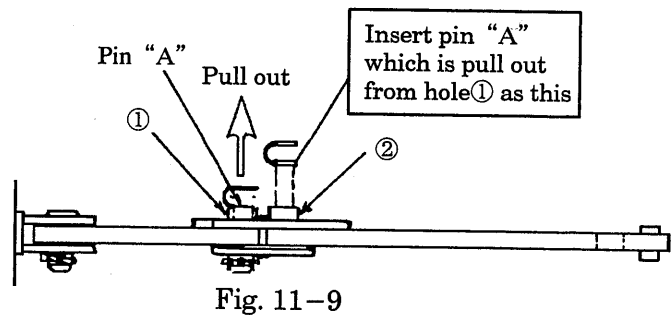

Fig. 11-9
- (2) Remove the connecting pin "A" of the link connecting the crawler to be extended with the axle from the hole (1), and insert it into the hole (2). (Fig. 11-9)